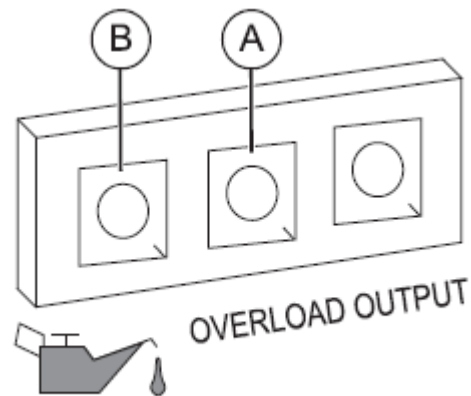

Figure-10 Shutdown Fault
- \* Do not overload generator or individual panel receptacles. **See Figure-10.** If an overload occurs, the overload LED (A) will illuminate and AC output ceases. To correct see the Generator Status Lights. Read Know Generator Limits carefully.